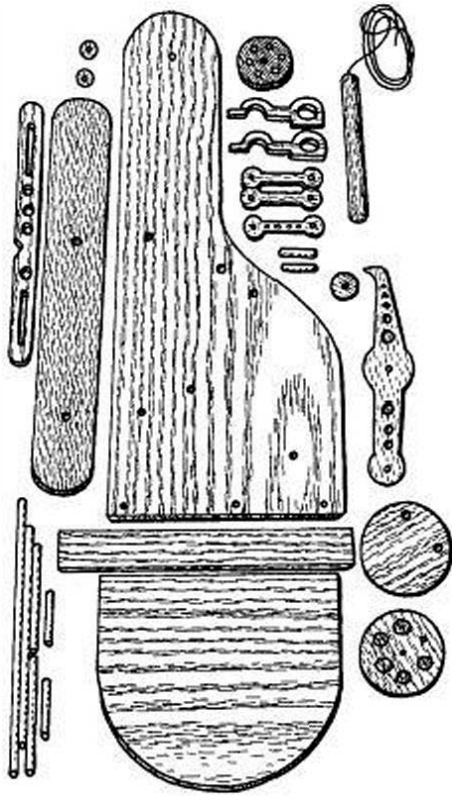

FIGURE 21-12
- 1** Lay out the parts and make sure they're free from splits, loose knots and warping (Figure 21-12).